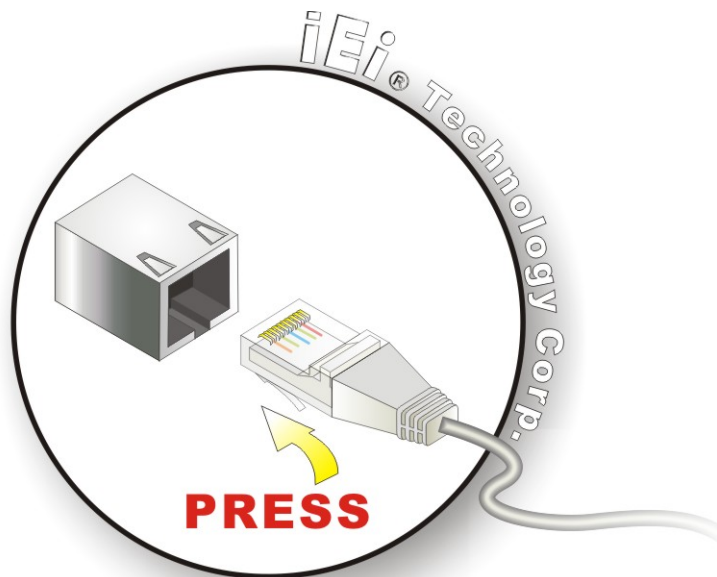

Figure 4-17: LAN Connection
Step 2: **Align the connectors.** Align the RJ-45 connector on the LAN cable with one of the RJ-45 connectors on the NANO-HM651. See **Figure 4-17**.